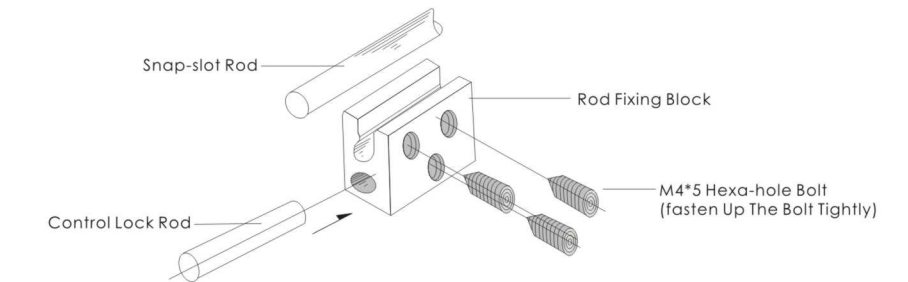
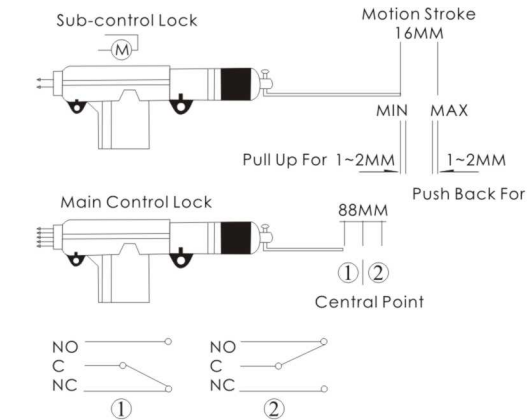

FIG 3.0 INSTALLATION OF DOOR-LOCK CONTROL ROD
Fig.4.0 Motion Stroke Adjustment
- 4) Assemble the control rod (CR) and door-lock knob rod into the rod fixing block (BR) (as shown in fig. 3.0), be sure to adjust until the adequate motion stroke is found then fasten the rods with hexa-hole cap bolts tightly. (Adjustment of stroke is shown in fig. 4.0)